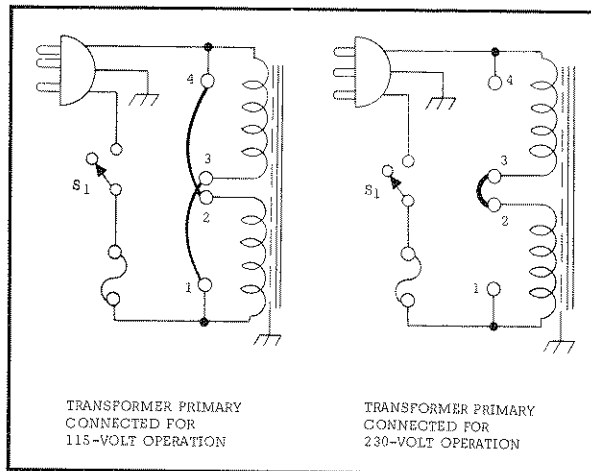

Figure 2-3. Input Power Transformer, Connections
2-17 CONNECTIONS FOR 230 VOLT OPERATION (Figure 2-3)
- b. Remove the jumpers between taps 4-2 and 3-1. Solder a jumper between taps 3-2 on the input power transformer T1, see Figure 2-3.